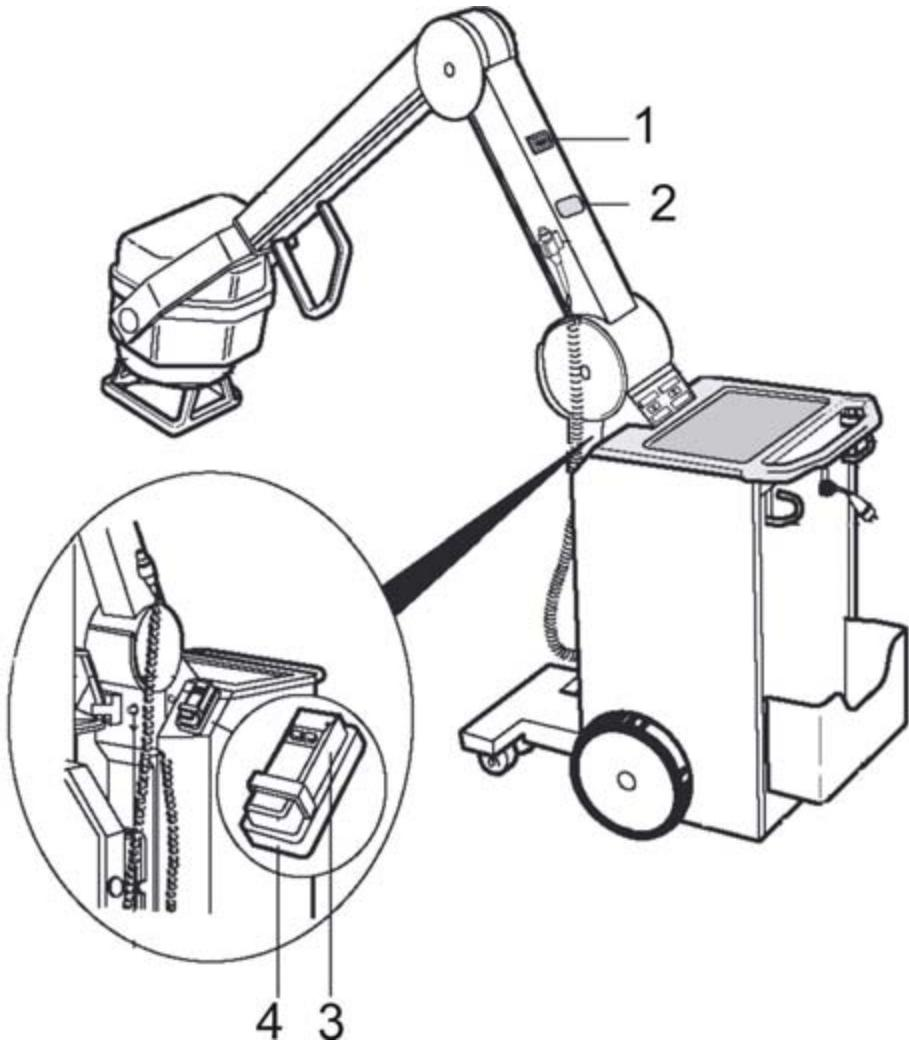

Fig. 2: View of the unit
Installation of the receiver sensor (1/Fig. 2 / p. 6), the remote switch holder (4/Fig. 2 / p. 6), and the internal cabling with the remote control board.
- If a DAP control is installed, unplug the connector at the display to prevent damage (2/Fig. 2 / p. 6).
- Tape the remote switch holder to the front left side (4/Fig. 2 / p. 6).
- Place the remote switch with battery indicator (1a/Fig. 1 / p. 5) into the holder (3/Fig. 2 / p. 6).